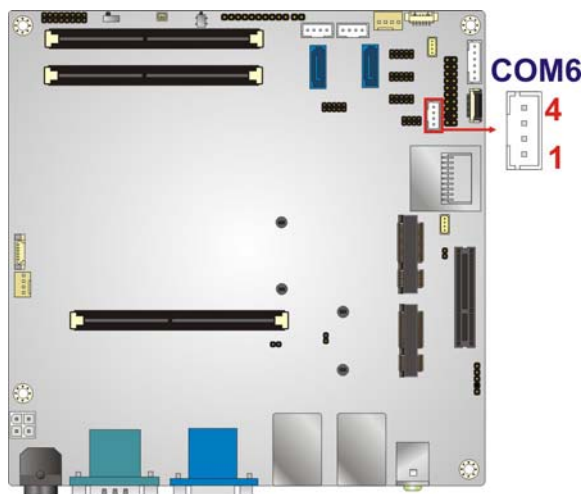

Figure 3-19: RS-422/485 Connector Location
**CN Location:** See Figure 3-19